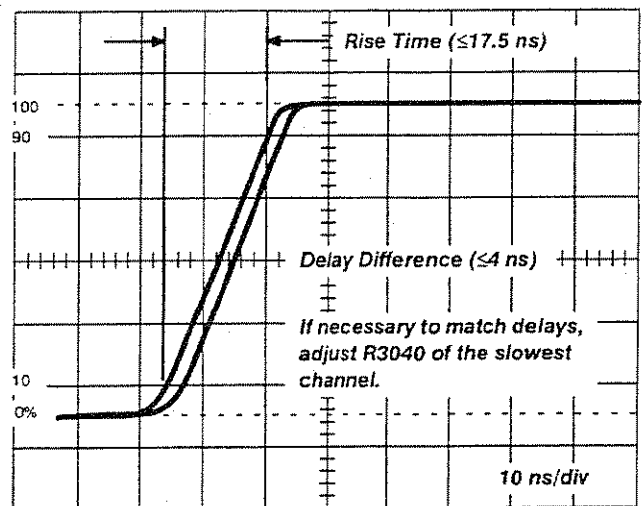

Figure 5-5: Rise time and signal delay differences.
- ac. Check that the signal delay difference between the two channels is less than or equal to 4 ns. (See figure 5-5) If the delay difference is not within standards, go on to step ad; otherwise, the adjustment procedure is complete.